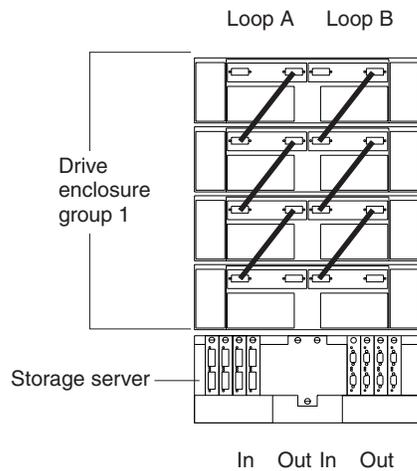

Figure 44. Connecting additional drive enclosures to drive loops A and B
3. Connect additional drive enclosures to drive loops A and B, as shown in Figure 44.